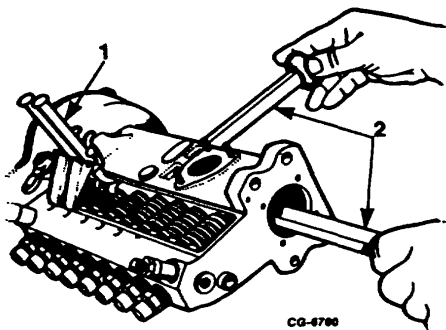

Figure 3. Installing Tappets
13. Compress plunger springs with SE-2345 tappet installer tool and position the eight SE-2341 tappet holder tools on side of pump housing to hold all tappets in their raised position (Figure 3).